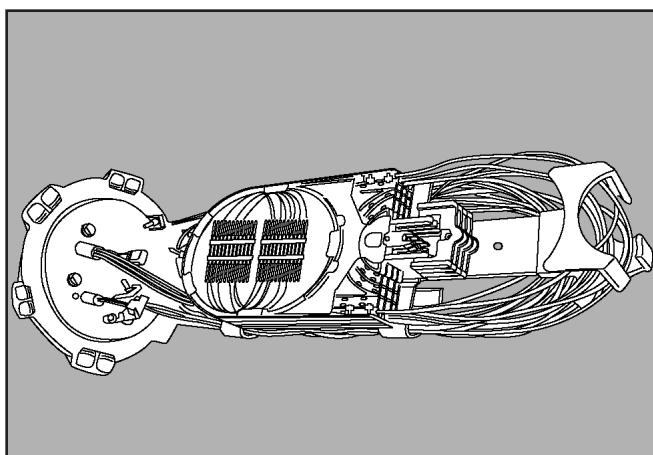

Figure 25
25. The completed splice is now ready for the fitting of the FibreGuard™ Closure Dome. (Figure 25) See Installation Procedures for FibreGuard™ Closures.